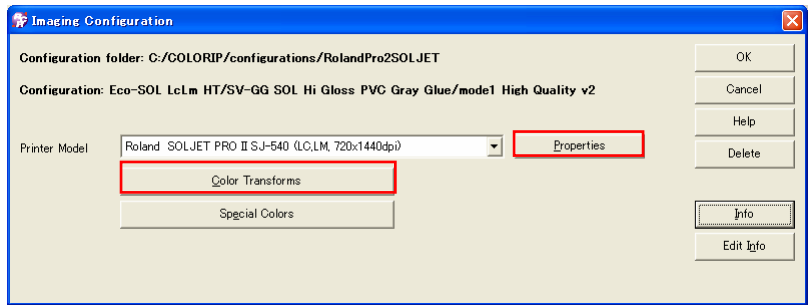
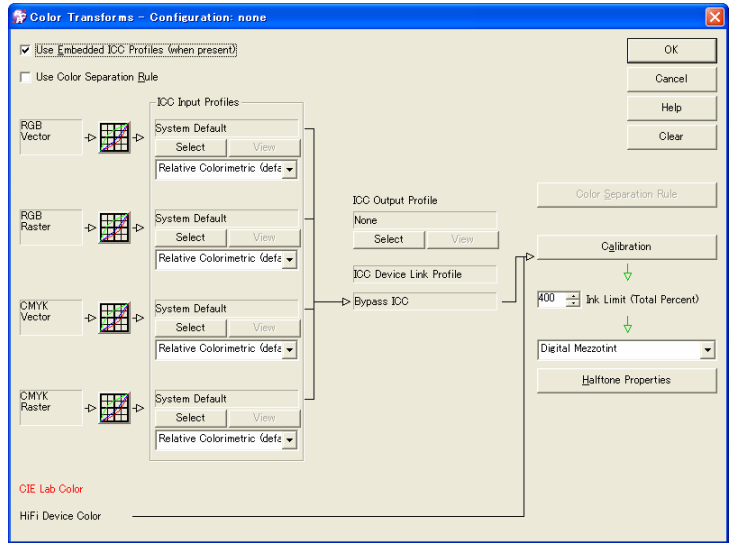
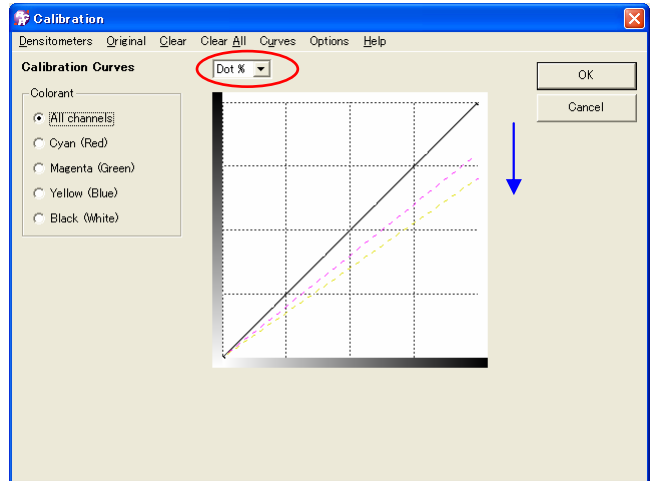
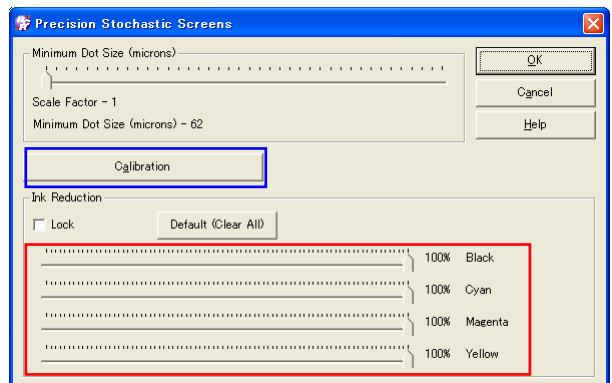

Fig.2 Imaging Configuration
Fig. 6 Color Transforms
Fig.8 Calibration
Fig.8-1 Halftone Properties in [Precision Stochastic Screen]
2. Click [Edit] to display the [Imaging Configuration] window in Fig. 2. Click [Properties] to display the [Printer Properties] window.
8. Click [OK] button to leave [Printer Properties] and go back to [Setup] window in Fig.2, then [Imaging Configuration—Save As] window in Fig.4 is appeared with clicking [OK] button one more time. Overwrite the settings with the same name.
[Imaging Configuration] window in Fig 2 is appeared. Click [Color Transforms] button. [Color Transforms] window in Fig.6 is appeared.
1. Printout [CheckPureColor.ps]. Check the Red color you satisfied in this pattern and also check whether the ink is overflowed or not at C100%M100%Y100%. Set the correspond Ink Amount individually by the Red color. Check [Show Color as Percentage] from [Color] menu and adjust the Ink Amount in Calibration dialog. Click [Calibration] button at [Color Transforms] in Fig.6 to display [Calibration] in Fig.8.
* In this example, click [Magenta] in Colorant and drag the 100% point to 80%. And also, click [Yellow] in Colorant and drag the 100% to 70% in Fig.8.
2. As for the ink overflow, it should be adjusted with [Ink Limit (Total Percentage)] in [Color Transforms] in Fig.6.
In this example, click [Yellow] in colorant and drag the 100% point to 75%. First, check [Show color as percentage] in [Color] menu. Then, change from [Light] to [Dot%] in Fig.8. (In case of unchecking the [Show color as percentage], the display on the graph will be [In-255 Out-255], which means the notation is [0~225] instead of [0~100], therefore it would be confusable when the set is changed.
- ii. Drag the Yellow line to set [In-0% Out-75%] in Fig.8.
- I. Printout [CheckPureColor.ps]. Check the Red color you satisfied in this pattern and also check whether the ink is overflowed or not at C100%M100%Y100%. Set the correspond Ink Amount individually for adjusting the Red color. Fig.8-1 will be displayed by clicking [Halftone Properties] in Fig.6. Set the quantity consumed of the Ink by the slide bar at [Ink Reduction] in Fig.8-1.
- II. As for the ink overflow, it should be adjusted with [Ink Limit (Total Percentage)] in [Color Transforms] in Fig.6.
* Click [Calibration] button in Fig.8-1 when you measure the Calibration curves.
2. After density patches are output, go back to the [Calibration] window in Fig.8.